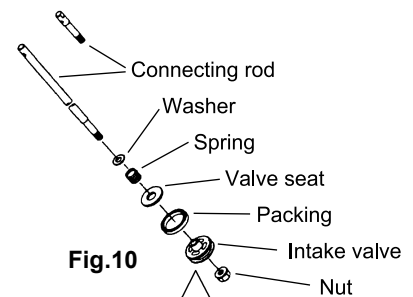

Fig.10
- 9) Fix the connecting rod with the vice and unscrew a nut to remove the valve body and valve seat. (Fig.10)